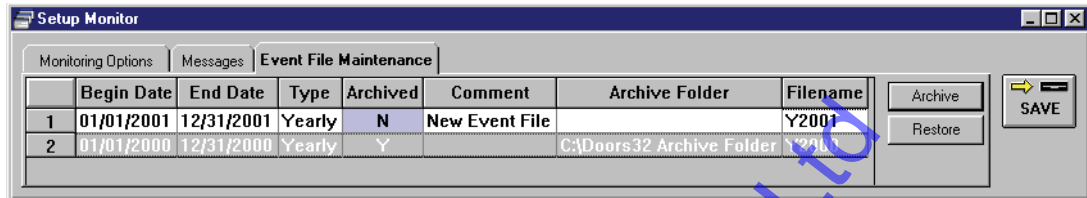

Figure 5-20: Event File Maintenance Window with Archived File
3. Click on the file to be restored. The window should appear similar to Figure 5-20.